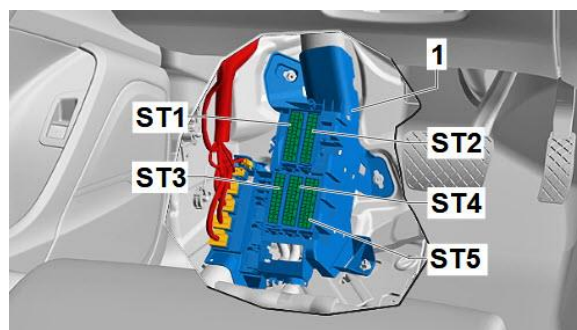

Figure 3. SR2/SB Fuse Panel.
2. SR2/SB Fuse Panel B is located under the driver side dead pedal/footrest (Figure 3).